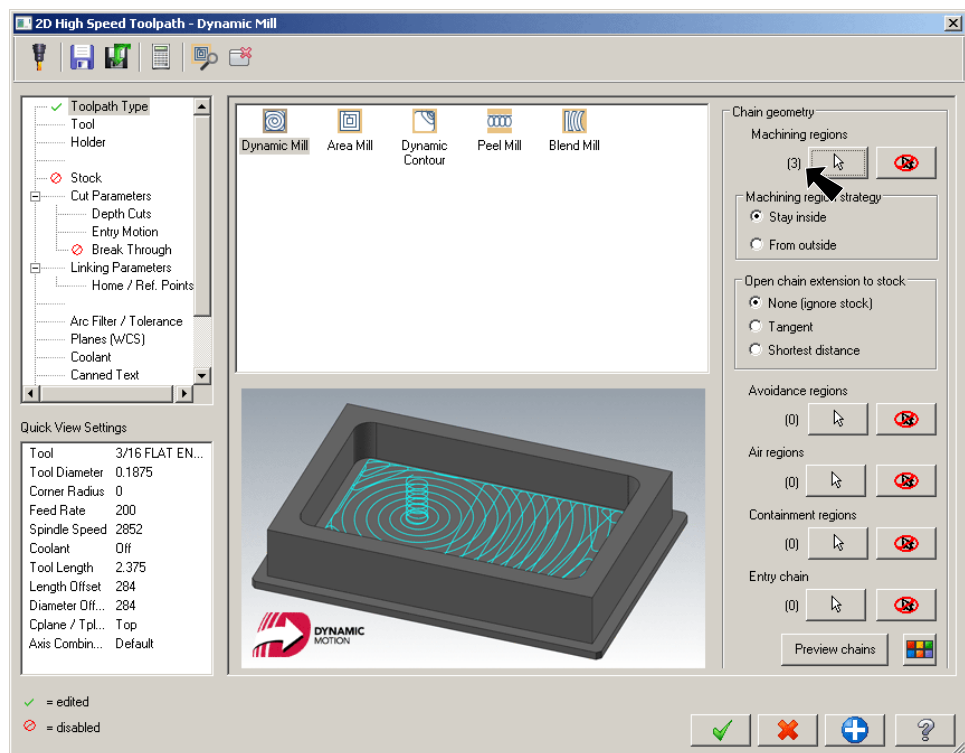

Fig. 66
Step 9. Back in the Dynamic Mill dialog box, confirm **3** Machining regions chained, Fig. 66.